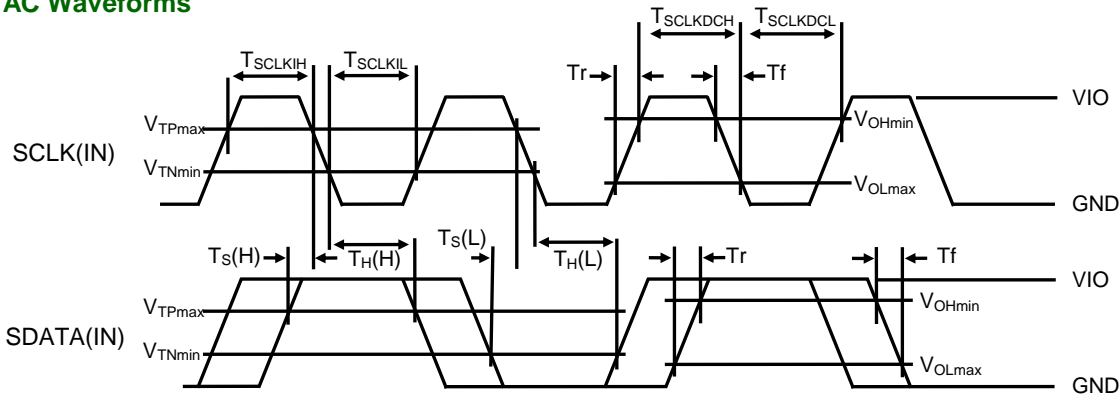

Figure 6.  $T_{SCLKDH}$ ,  $T_{SCLKDCL}$ ,  $T_{SCLKIH}$ ,  $T_{SCLKIL}$ ,  $T_s$ ,  $T_H$
- Figure 6, 7, 8, 9 and Table8 show the important parameters for SCLK and SDATA required for proper operations of the Toshiba MIPI RFFE slave interface.